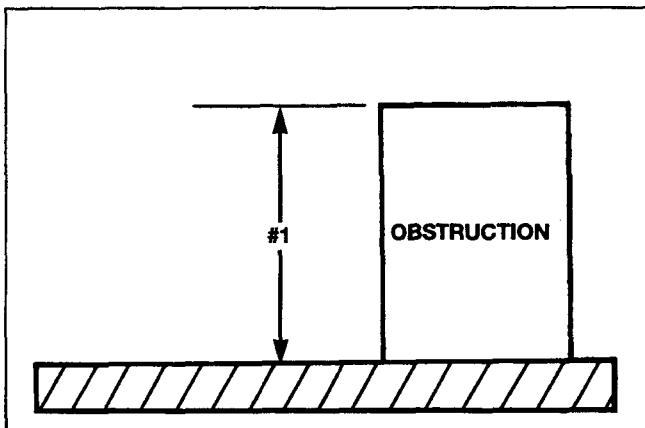

Fig. 24
1. Highest point which load must clear from floor. (Ref. Fig. 24).